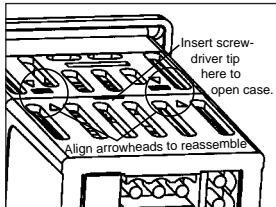

Figure 1 — Screwdriver slot and assembly alignment arrows
- Insert a small screwdriver into the slot on the top of the case (see Figures 1 and 2). Gently twist the screwdriver blade to separate the case halves. Repeat on the bottom of the case; then separate the case halves, and pull the circuit boards out.
- Insert the circuit board assembly into the back half of the case. The long pins connecting the two main boards together should be on top; the unit labels should read upright. Insert the whole assembly into the front half of the case, making certain that the shaded arrows on the top of each half of the case align. (See Figure 1.)